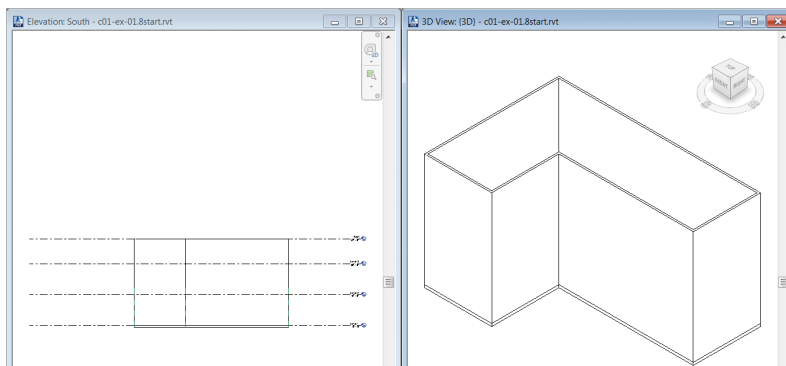

FIGURE 1.10 Tiled windows show the result of modifying the top constraints of the walls.
7. With the walls still selected, turn your attention to the Properties palette. Find the parameter Top Constraint. Change the value to Up To Level: Roof, and then click Apply, or move your mouse into the canvas to automatically apply it. Notice how the walls change height in both the 3D view and the elevation view (Figure 1.10).